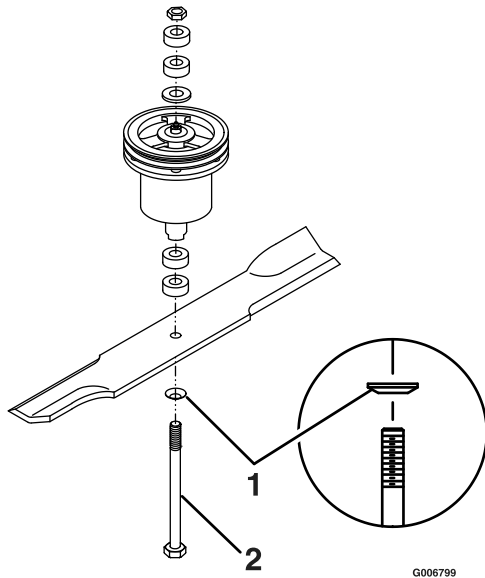

Figure 13
- Torque bolt to 75–80 ft-lb (102–109 N-m) (see Figure 13).